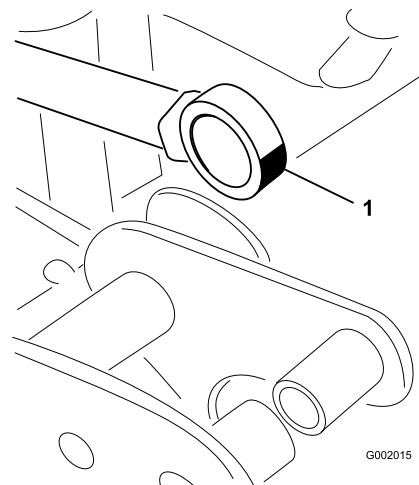

Figure 65
5. Manipulate the actuator-rod-bearing end and apply grease into the bearing (Figure 65).